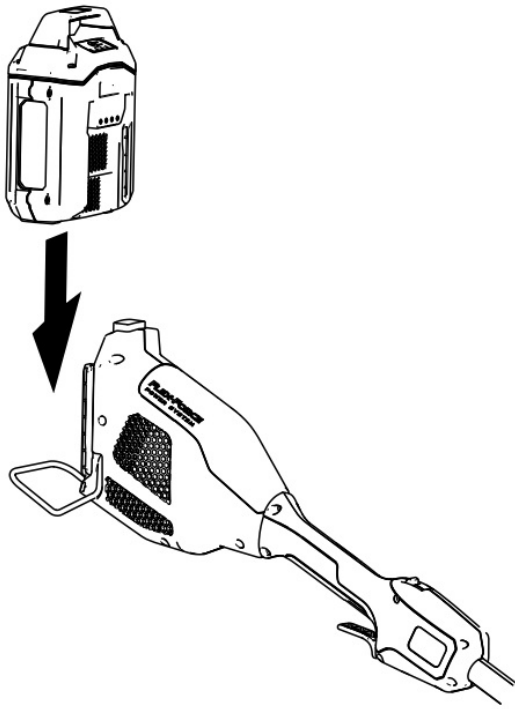

Figure 6
2. Align the cavity in the battery pack with the tongue on the handle housing (**Figure 6**).